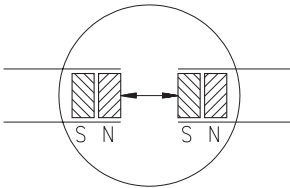

Fig. 18: Determination of the pole position. Joining the magnetic strip
- Check polarity before joining the two parts. Both ends must attract each other (if necessary, use compass needle). In case both ends have the same polarity, shorten one end by a half pole division (fig. 18).